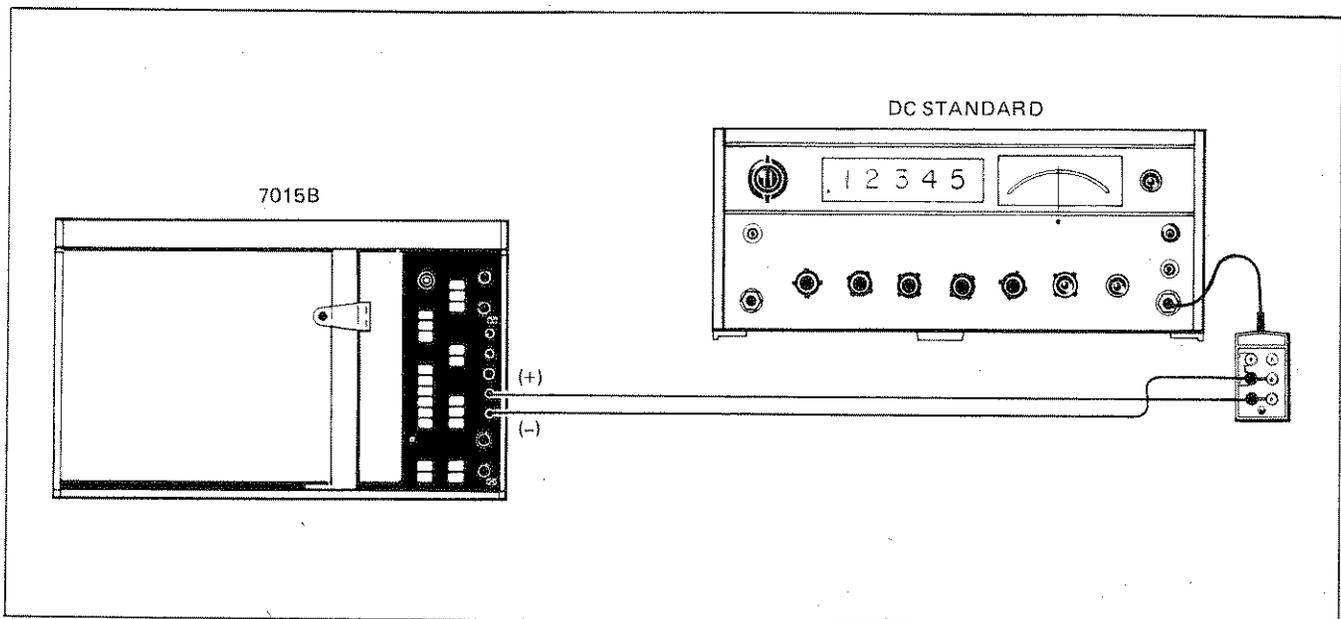

Figure 4-3. Connections for Accuracy Checks
1. Apply zero volts from Model 740B DC Standard to X-axis input. (See Figure 4-3.)
1. Apply zero volts from Model 740B DC Standard to Y-axis input. See Figure 4-3.